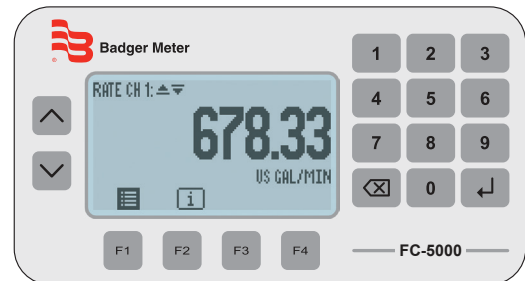

Figure 1: Single display
- FLOW RATE CH 1 (*Figure 1*)
- FLOW TOTAL CH 1 (*Figure 1*)